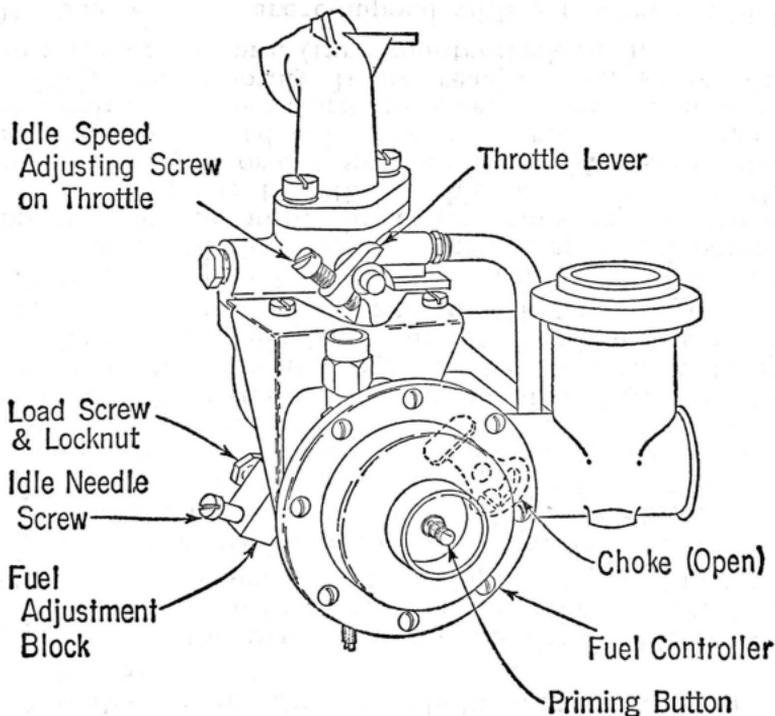

Fig. 5
6.02 A float-type carburetor (modified for LP-Gas) is illustrated in Fig. 5.
- (1) Close the load and idle needle screws on the **fuel adjustment block** by turning them clockwise until they rest lightly against their seats. Do not force the screws too firmly against the seats or they may be damaged.
- (2) Open the load screw about five turns counterclockwise.
- (3) Open the idle needle screw about one turn.
- (4) Make certain that the choke lever is fully open (see Fig. 5).
- (5) Depress the primer button on the Model S fuel controller for an instant, then start the engine. Allow the engine to warm up before making final adjustments.
- (6) With the engine running at normal operating speed, turn the load screw in (clockwise) until the engine starts to miss (**lean mixture**). Then turn the load screw out past the point of best operation until the engine begins to run unevenly (**rich mixture**). Then turn the load screw in just enough so that the engine will run smoothly. Hold the load screw in position and tighten the locknut. Hold throttle at idle position (illustrated in Fig. 5), then release. Engine should accelerate quickly and smoothly.
- (7) If the engine is required to run at idle (for example pumps and blowers), turn the idle speed adjusting screw on the throttle until the engine runs at the proper idle speed. Hold the throttle at this point and turn the idle needle slowly in or out until the engine idles smoothly. Then readjust idle speed adjusting screw until proper idle speed is obtained. Allow throttle to open. Engine should accelerate quickly and smoothly. If not, readjust load screw — usually to a richer mixture, (turn counterclockwise).